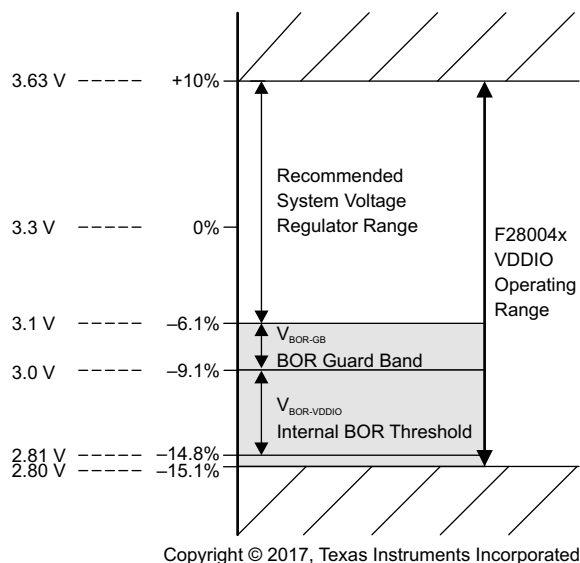

**Figure 7-1. Supply Voltages**
- (1) Operation above TJ = 105°C for extended duration will reduce the lifetime of the device. See Calculating Useful Lifetimes of Embedded Processors for more information.
- (2) The VDDIO BOR voltage (VBOR-VDDIO(MAX)) in Electrical Characteristics determines the lower voltage bound for device operation. TI recommends that system designers budget an additional guard band (VBOR-GB) as shown in Figure 7-1.
- (3) Internal BOR is enabled by default.
- (4) See the Power Management Module Operating Conditions table.
- (5) TI recommends VBOR-GB to avoid BOR resets due to normal supply noise or load-transient events on the 3.3-V VDDIO system regulator. Good system regulator design and decoupling capacitance (following the system regulator specifications) are important to prevent activation of the BOR during normal device operation. The value of VBOR-GB is a system-level design consideration; the voltage listed here is typical for many applications.